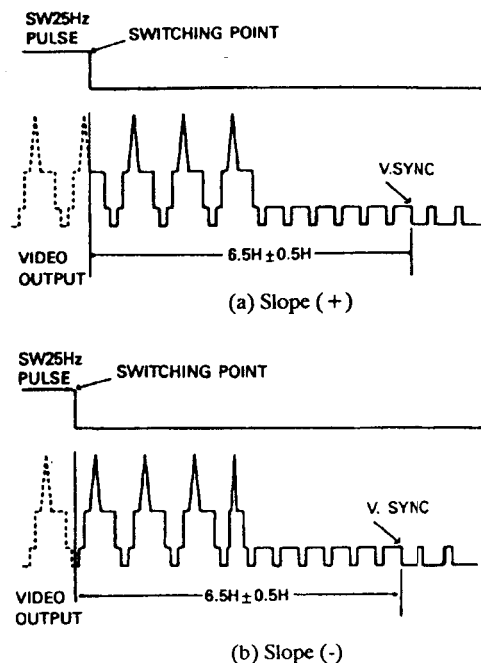

Fig.3 PG Shifter
4. Set the scope to (+) slope and adjust the shifter control (VR603) so that the trailing edge of the SW 25Hz pulse is placed $6.5H \pm 0.5H$ (horizontal) lines before the start of vertical sync pulse in Fig 3(a)
5. And then, set the scope to (-) slope and confirm the PG in Fig 3 (b).